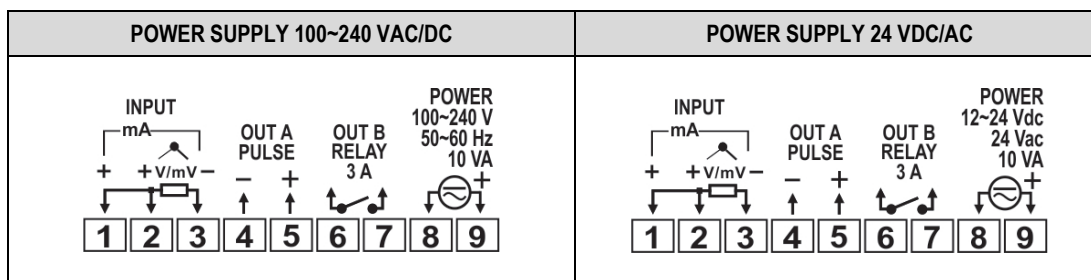

Figure 11 – Electrical connections labels
- 50 mV, 5 V, and 10 V:** Figure 11 shows the connection mode for 0-50 mV, 5 V, and 10 V.